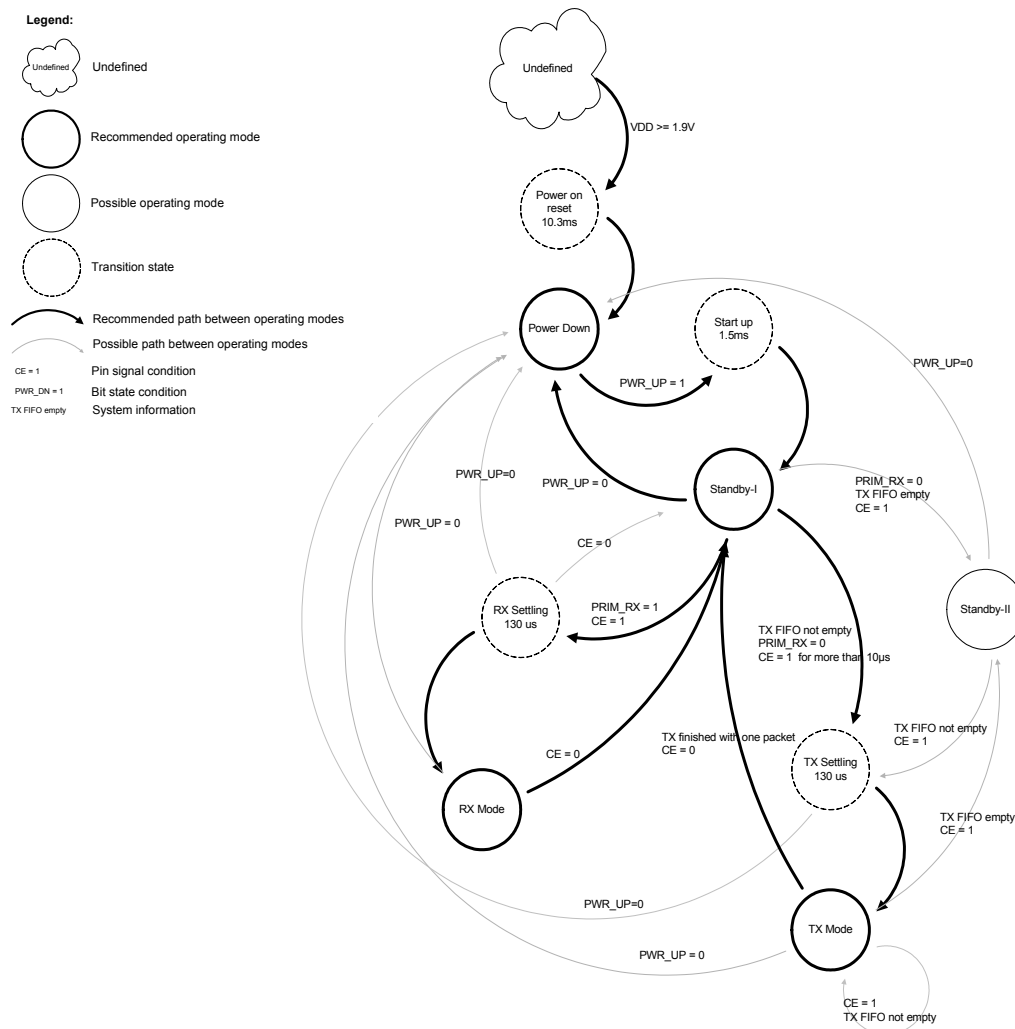

Figure 3. Radio control state diagram
The state diagram (Figure 3.) shows the modes the nRF24L01 can operate in and how they are accessed. The nRF24L01 is undefined until the V_{DD} becomes 1.9V or higher. When this happens nRF24L01 enters the Power on reset state where it remains in reset until it enters the Power Down mode. Even when the nRF24L01 enters Power Down mode the MCU can control the chip through the SPI and the Chip Enable (CE) pin. Three types of states are used in the state diagram. “Recommended operating mode” is a state that is used during normal operation. “Possible operating mode” is a state that is allowed to use, but it is not used during normal operation. “Transition state” is a time limited state used during start up of the oscillator and settling of the PLL.